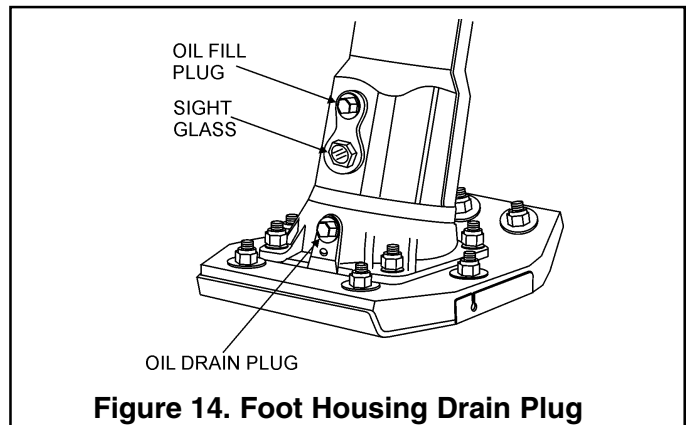

Figure 14. Foot Housing Drain Plug
- Drain oil reservoir on foot housing (Figure 14). Refill with approximately 1.7 pt. (800cc) of 10W-30 motor oil. Oil should be midway in sight glass. Break in oil should be changed after first 50 hours.